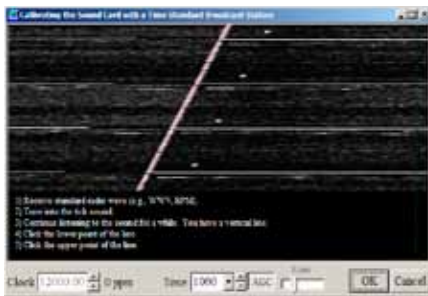

Fig 19A – Calibrating the MMSSTV program with a WWV station.
15. A window titled “Calibrating the Sound Card with a Time Standard Broadcast Station” will open. See Figure 19A.